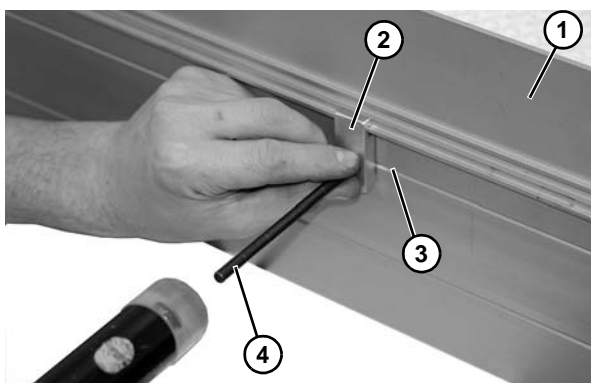

Figure 24
1. Locate guide (**Figure 24, item 1**) and retaining clip (**Figure 24, item 2**) and hold to side rail. Hole should line up with notch (**Figure 24, item 3**) in side rail. Mark the hole locations with a center punch (**Figure 24, item 4**) and remove the bracket.